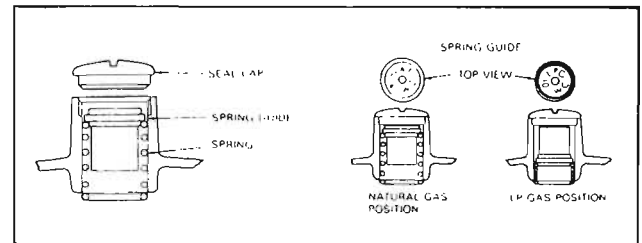

Figure 6-6. Gas Regulator Adjustment
In addition, regulator (39) must be set to proper setting of 4.0" W.C. for natural and manufactured gas and 10" W.C. for propane and butane gases. (Regulator is set at 4" W.C. pressure at the factory and must be changed to 10" W.C. pressure as required.) Regulator is adjusted by removing slotted cap and positioning marked spring guide as shown in Figure 6-6.